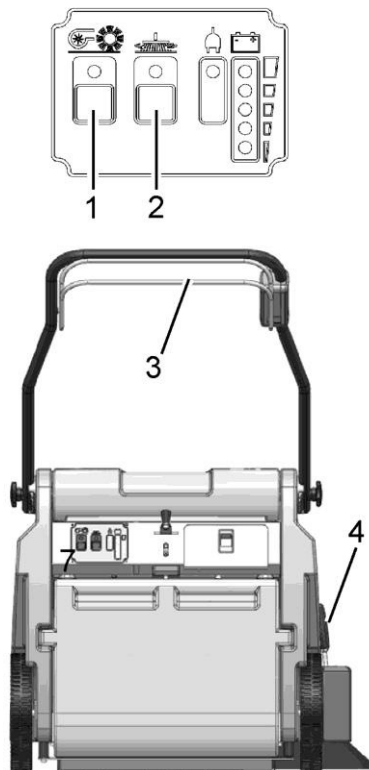

Fig. 3
Please read the Safety Information in Chapter 1. Before switching the machine on, ensure that the drive bar (Fig. 3/3) on the handle has not been actuated.
1. Switch the machine on using the (Fig. 3/1) button: rotary brush drive, dust vacuum and side brush drive are ready to operate.
2. Lower the side brush to its working position using the lever (Fig. 3/4). When working without the side brush: do not lower the side brush and press the button (Fig. 3/2) for the side brush once. The green control lamp goes out.
3. Actuate the drive bar (Fig. 3/3) on the handle: the machine starts to work.